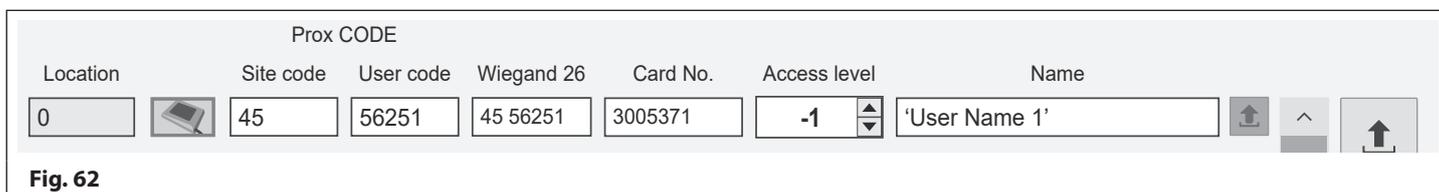

Fig. 62
- The site code, user code, Wiegand 26 and card no. fields in the location that was selected will automatically update with the fob/card information (if required the user's name details can be entered into the Name field), see Fig.62.